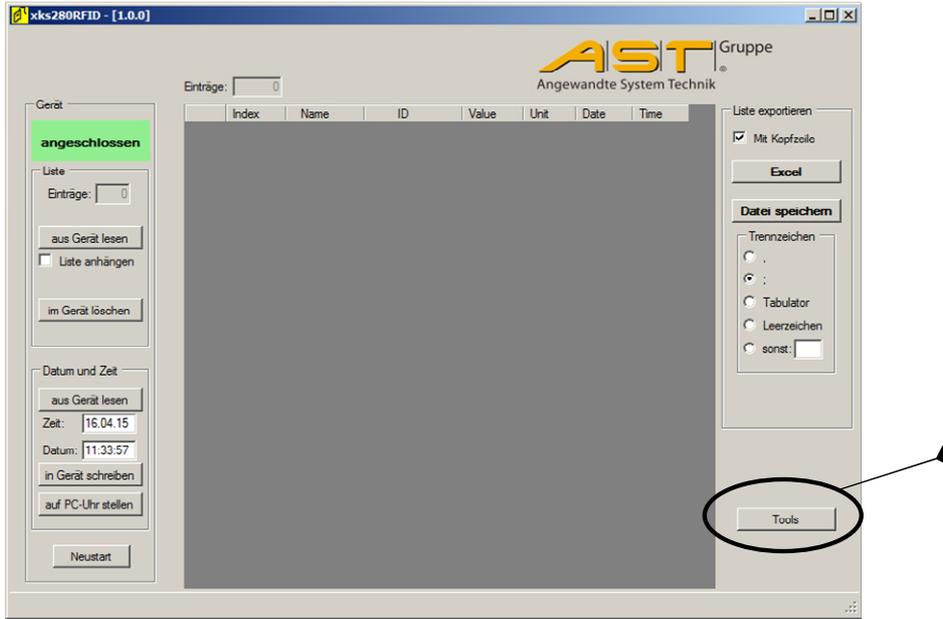

Figure 9: Software “xks280“: Calling up the tools
- Display of the following in the “Tools” window (refer to Figure 9):